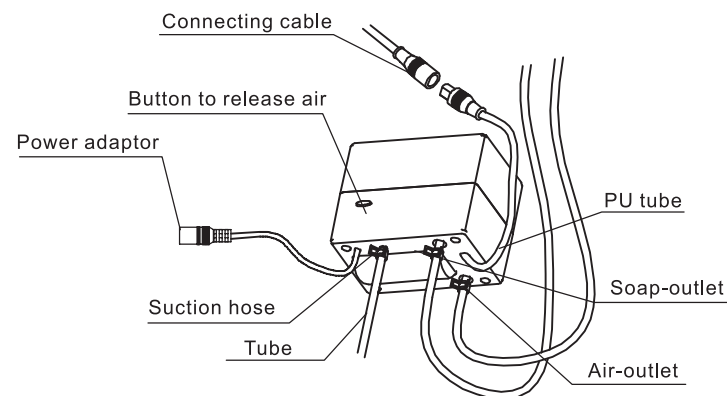

Figure 2
- 3.As per figure 2,put a clip on the suction hose,and connect it with the suction of control box then fix it.Same way to do the other 2 PU hoses.
- 6.As per figure 2,connect the adaptor and sensor,be careful the direction of cable plugs